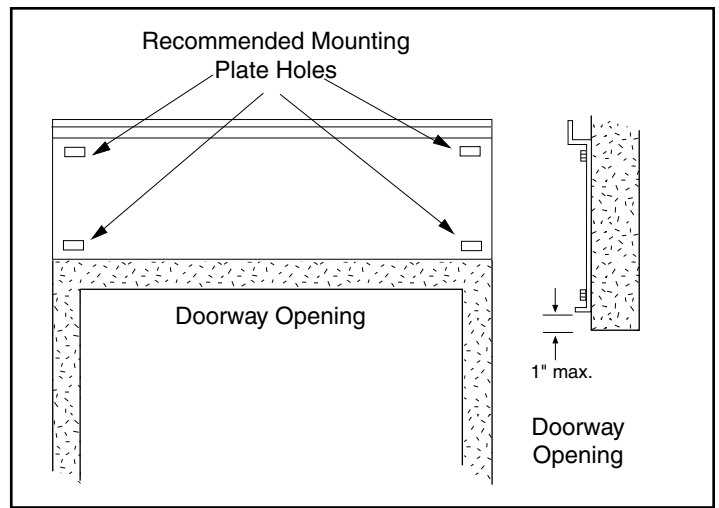

FIGURE 6 - Positioning of Mounting Plate
- a. Position and center the mounting plate over the door opening. The mounting plate must be positioned with the “Z” lip on top. Drill mounting holes on the mounting plate. **See Figure 6.**